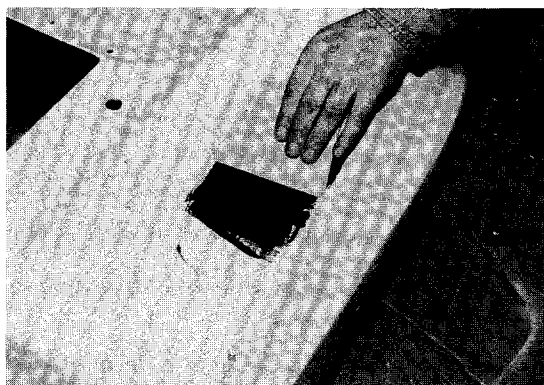

Figure 14-16
10. Hole or cracks should be filled with body filler. Use a squeegee to spread body filler out evenly and uniformly. Allow to cure (**Figure 14-16**).